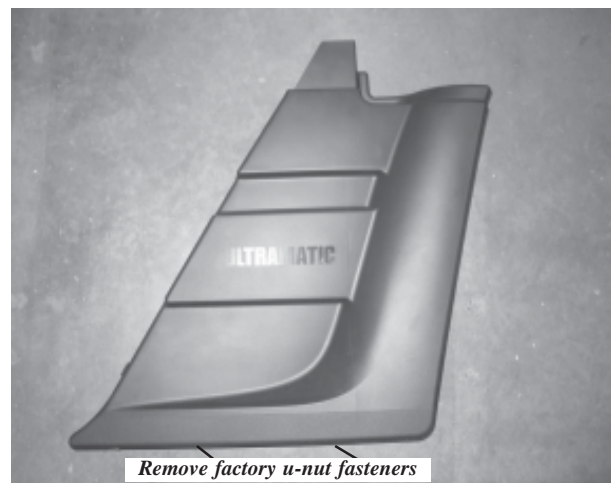

Figure 2
3. Remove fasteners from vehicle side panels to both sides. **(Figure 2)**